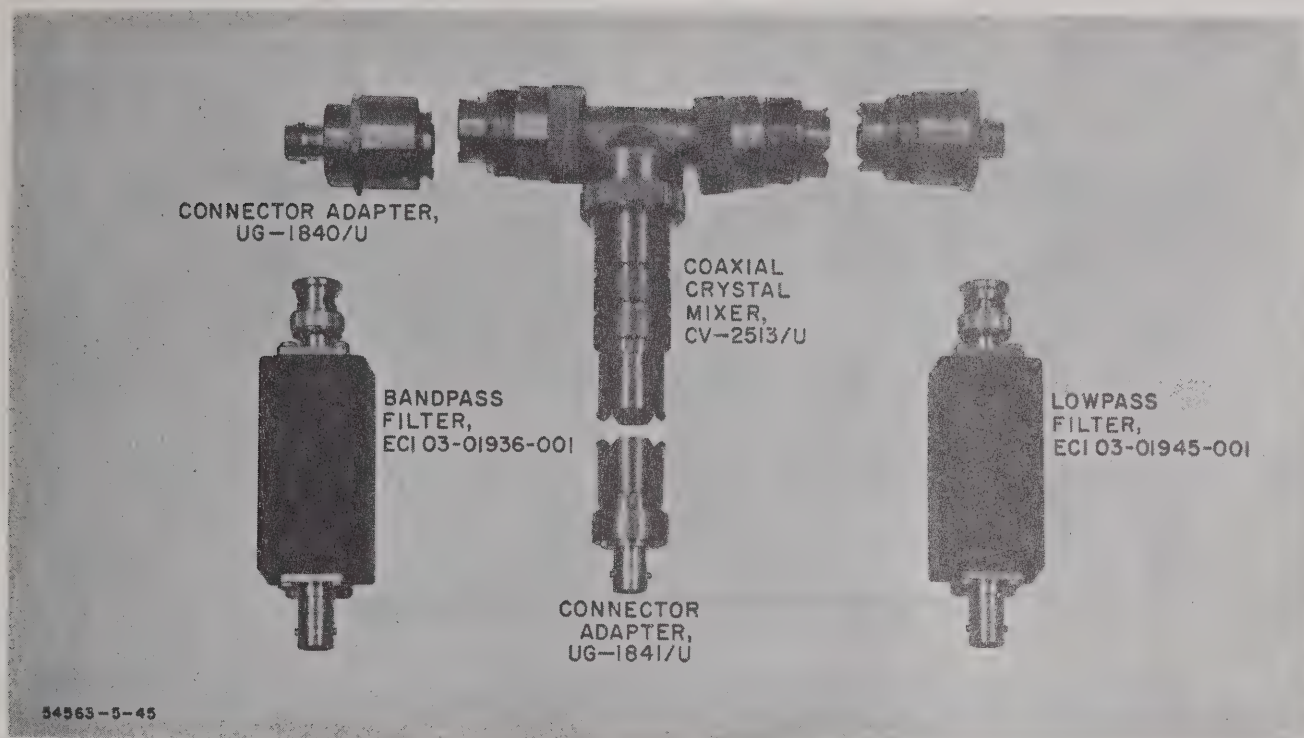

Figure 1-9. Communications Test Kit, MK-1104/TYA-11, Test Accessories
(4) Test Accessories. Communications Test Kit, MK-1104/TYA-11, contains six test accessories used in performing maintenance on Communication Central Group, AN/TYA-11. The test accessories are described in the following paragraphs and shown in Figure 1-9.